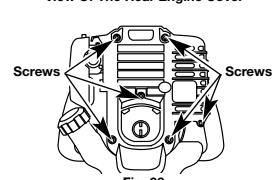

Fig. 36
- 1. Remove the six (6) screws on the back of the engine cover with a Flat-head or T-25 Torx screwdriver (Fig. 36).
- 4. Remove the engine cover (Fig. 36).